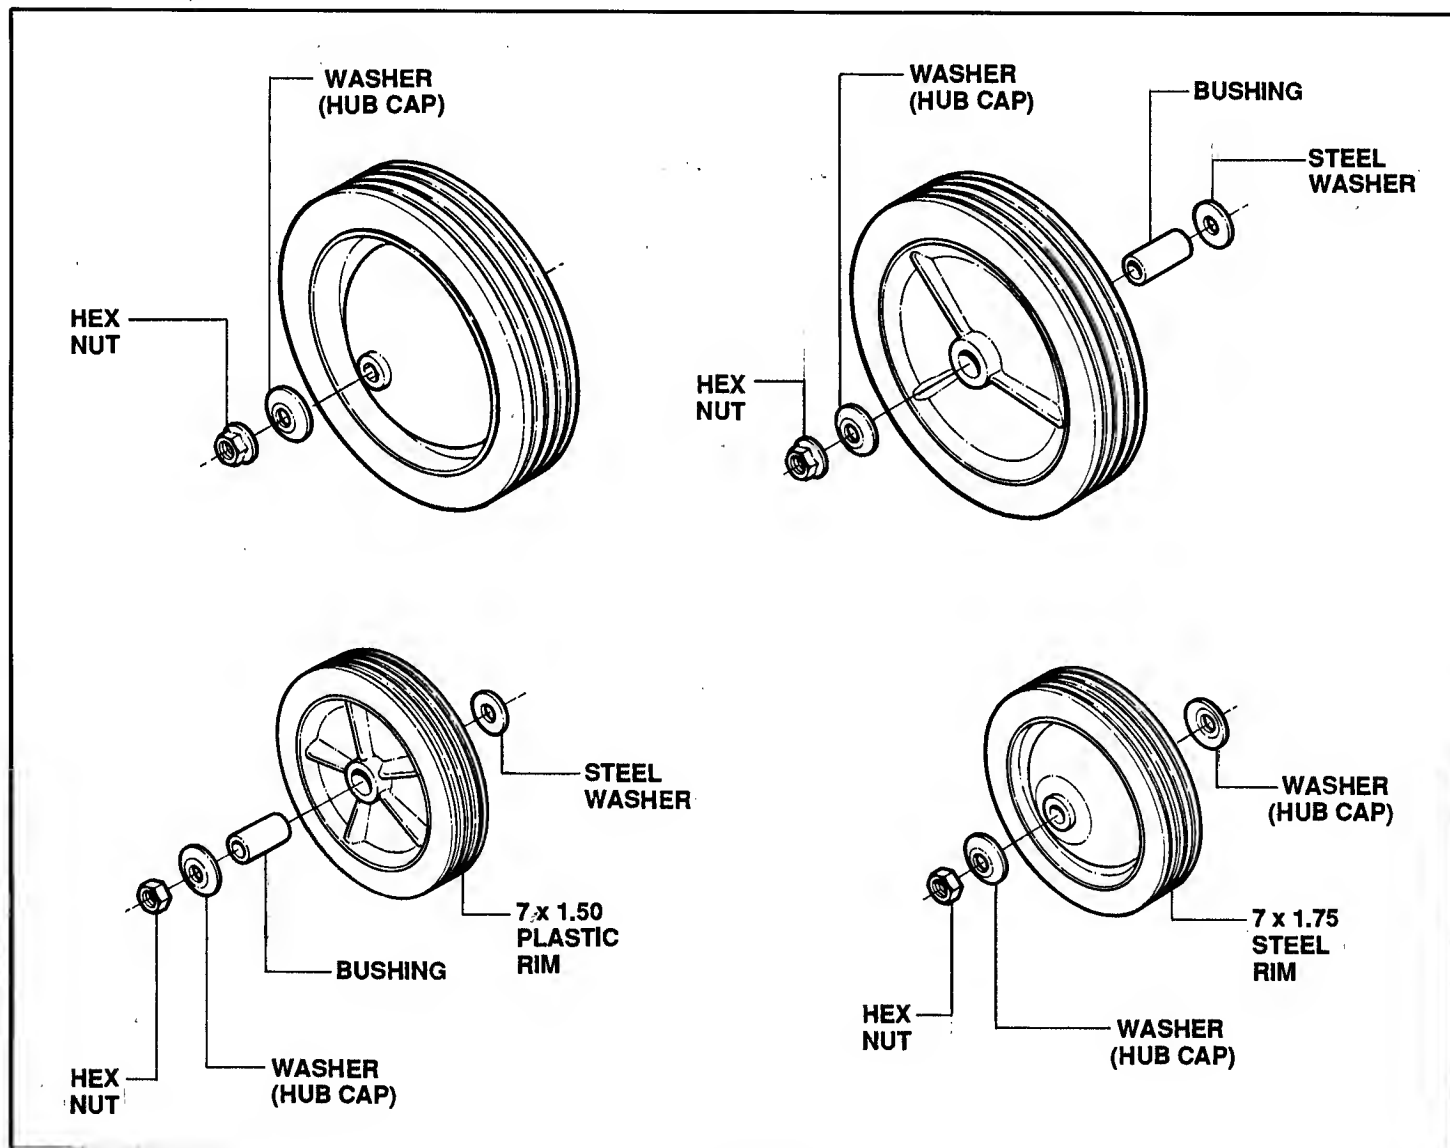

FIGURE 2.23
1. Remove hex nut. See Figure 2.23.